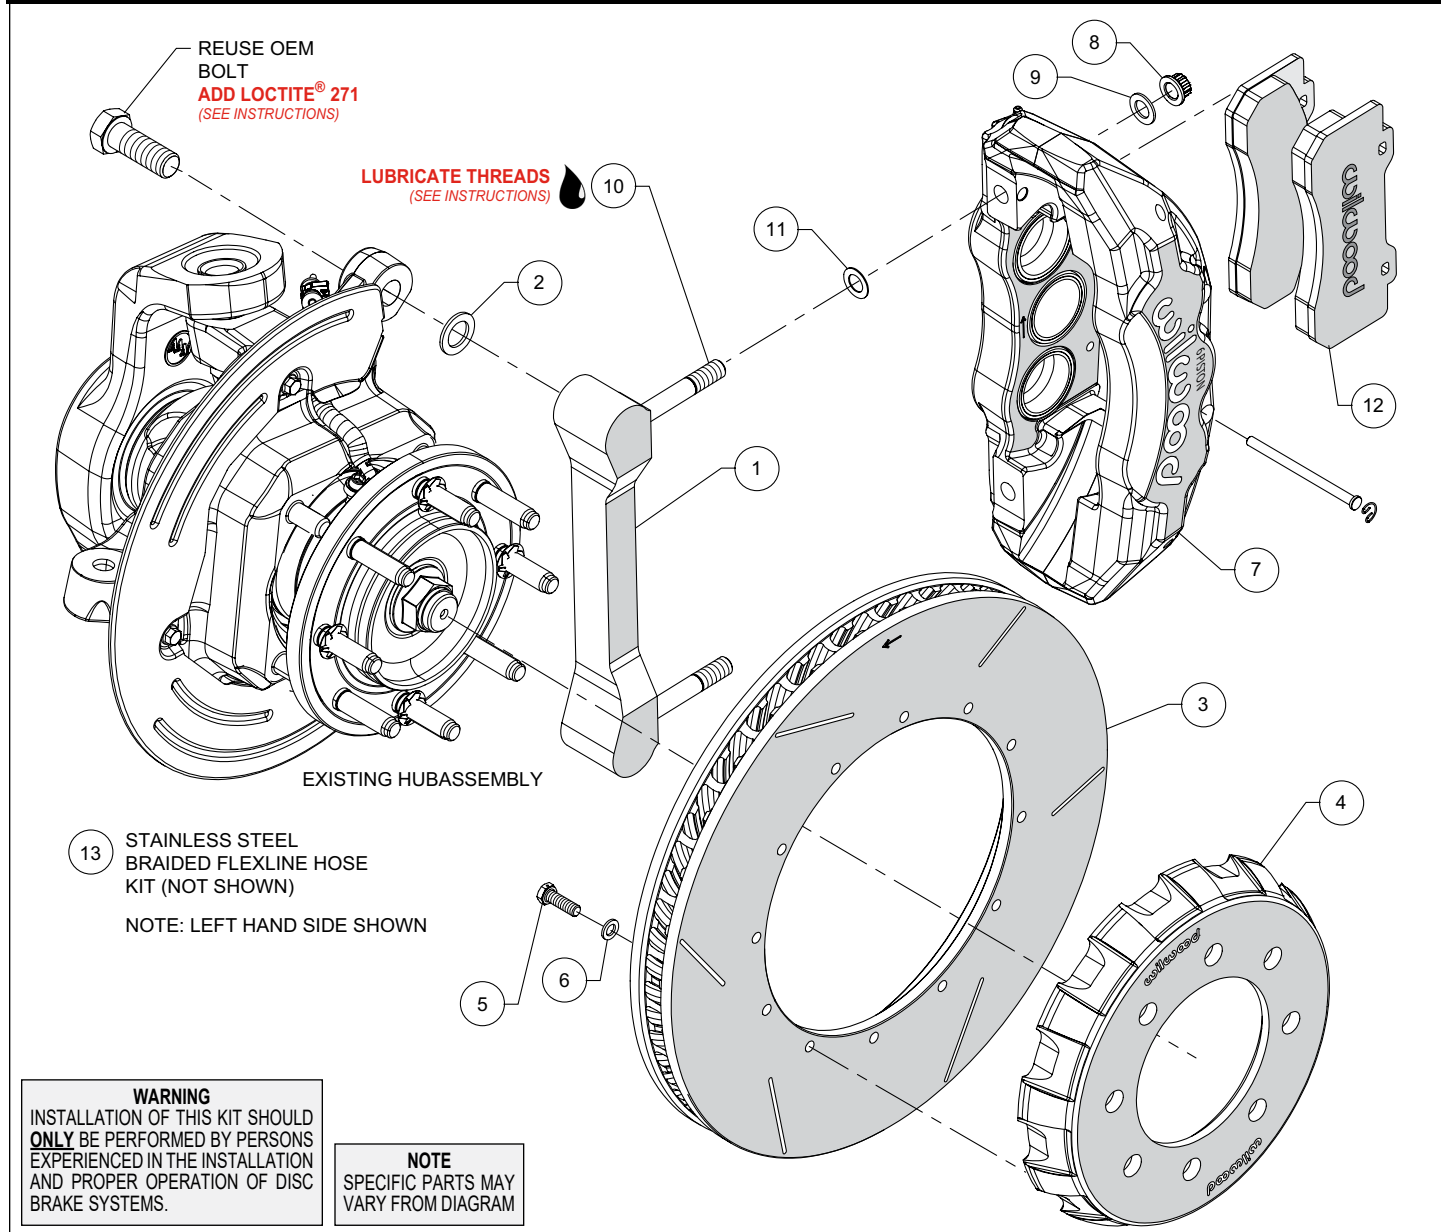
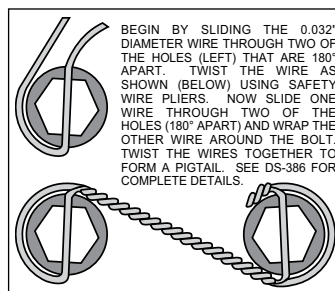

Figure 1. Typical Installation Configuration
Figure 3. Safety Wire Diagram
NOTE: Numbers in parenthesis refer to the parts list and Figure 1 on the preceding pages.
- The caliper mount bracket (1) should initially be installed with clean, dry threads on the mounting bolts. Orient the bracket as shown in Figure 1 and Photo 1, and install using OEM bolts. Initially place one .030 thick shim (2) on each bolt between the bracket and upright, Figure 1. Temporarily tighten the mounting bolts. **NOTE:** The bracket must fit squarely against the mount bosses on the upright. Inspect for interference from casting irregularities, machining ridges, burrs, etc. Later, after the caliper alignment has been checked, the mount bolts will be torqued to specification.
- Orient the rotor (3) and the hat (4) as shown in Figure 1 and Photo 2. Attach rotor to hat using bolts (5) and washers (6). Torque bolts to 25 ft-lb using a criss-cross pattern. For an added measure of security, the bolts may be safety wired using standard 0.032 inch diameter stainless steel safety wire as shown in Figure 3. Please refer to Wilwood's data sheet DS-386 (available at www.wilwood.com/Pdf/DataSheets/ds386.pdf) for complete safety wire installation instructions.
- NOTE:** This kit contains distinct right and left hand calipers that must be mounted in a specific direction, as described below. Lubricate the caliper mounting studs (10) with lightweight oil. Initially place one .032" thick shim (11) on each stud as shown in Figure 1 and Photo 4. Mount the caliper (7) onto the bracket (1) using lock nuts (8) and washers (9), Figure 1. Ensure that the caliper is mounted so that the largest pistons are at the rotor exit end of the caliper, in relation to the direction of rotor rotation. Temporarily tighten the lock nuts and view the rotor through the top opening of the caliper. The rotor should be centered in the caliper, Photo 5. If not, adjust by adding or subtracting shims (2) between the bracket and the upright. Always use the same amount of shims on each of the two mounting bolts. Once the caliper alignment is correct, torque OEM bolts to 185 ft-lb.